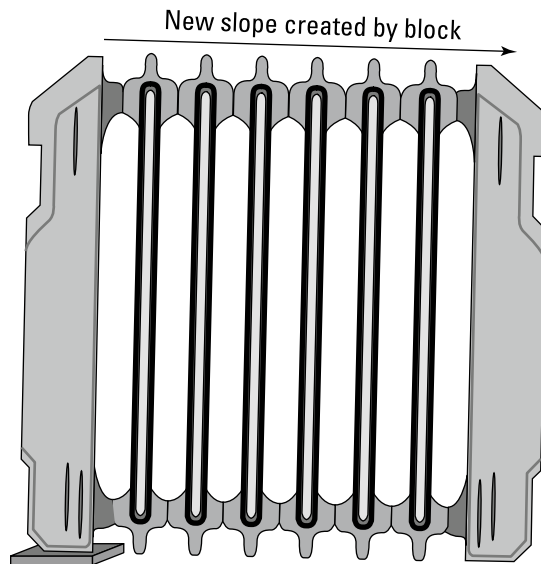

FIGURE 10-4: Place a block under the radiator to get the right slope and prevent banging.
- » **Make sure that every radiator slopes slightly toward the steam inlet pipe (the one that comes out of the wall or floor).** If one doesn't, slip a little $\frac{1}{4}$ -inch-thick rectangle of wood under the feet at the vent end (as shown in Figure 10-4). This helps prevent those irritating knocking and clanging noises.